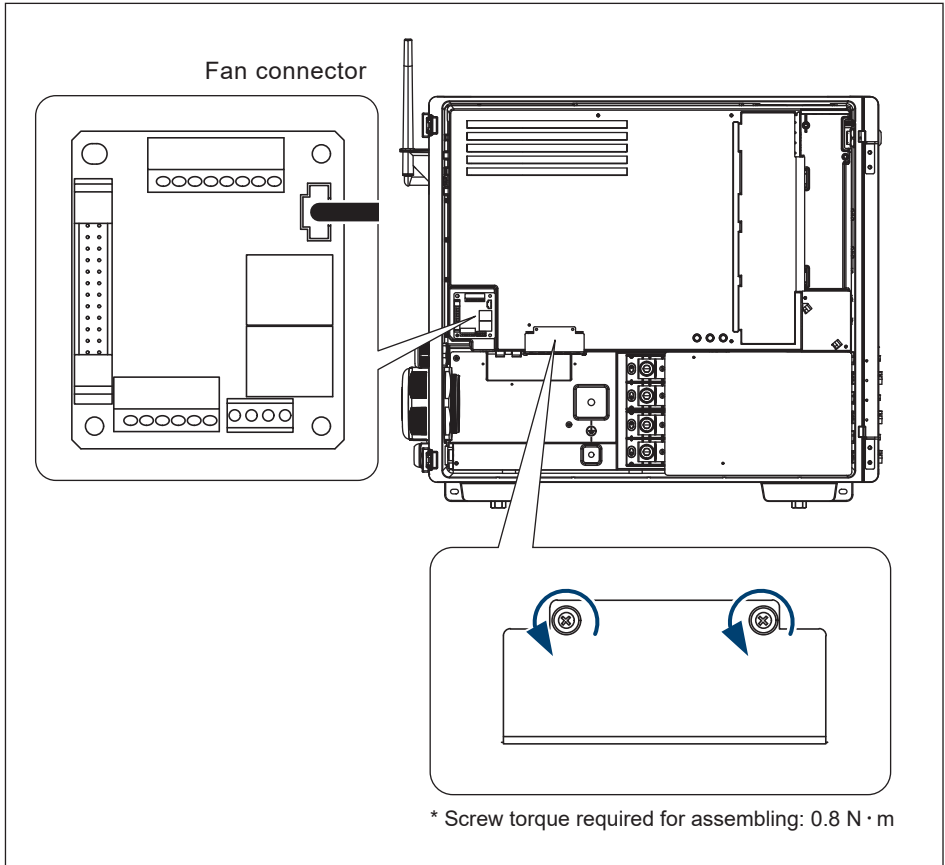

Figure 5-15: Internal fan 2 location & remove the shield cover
- (1) Disconnect the power connector on the COMM. board. (**Figure 5-15**)